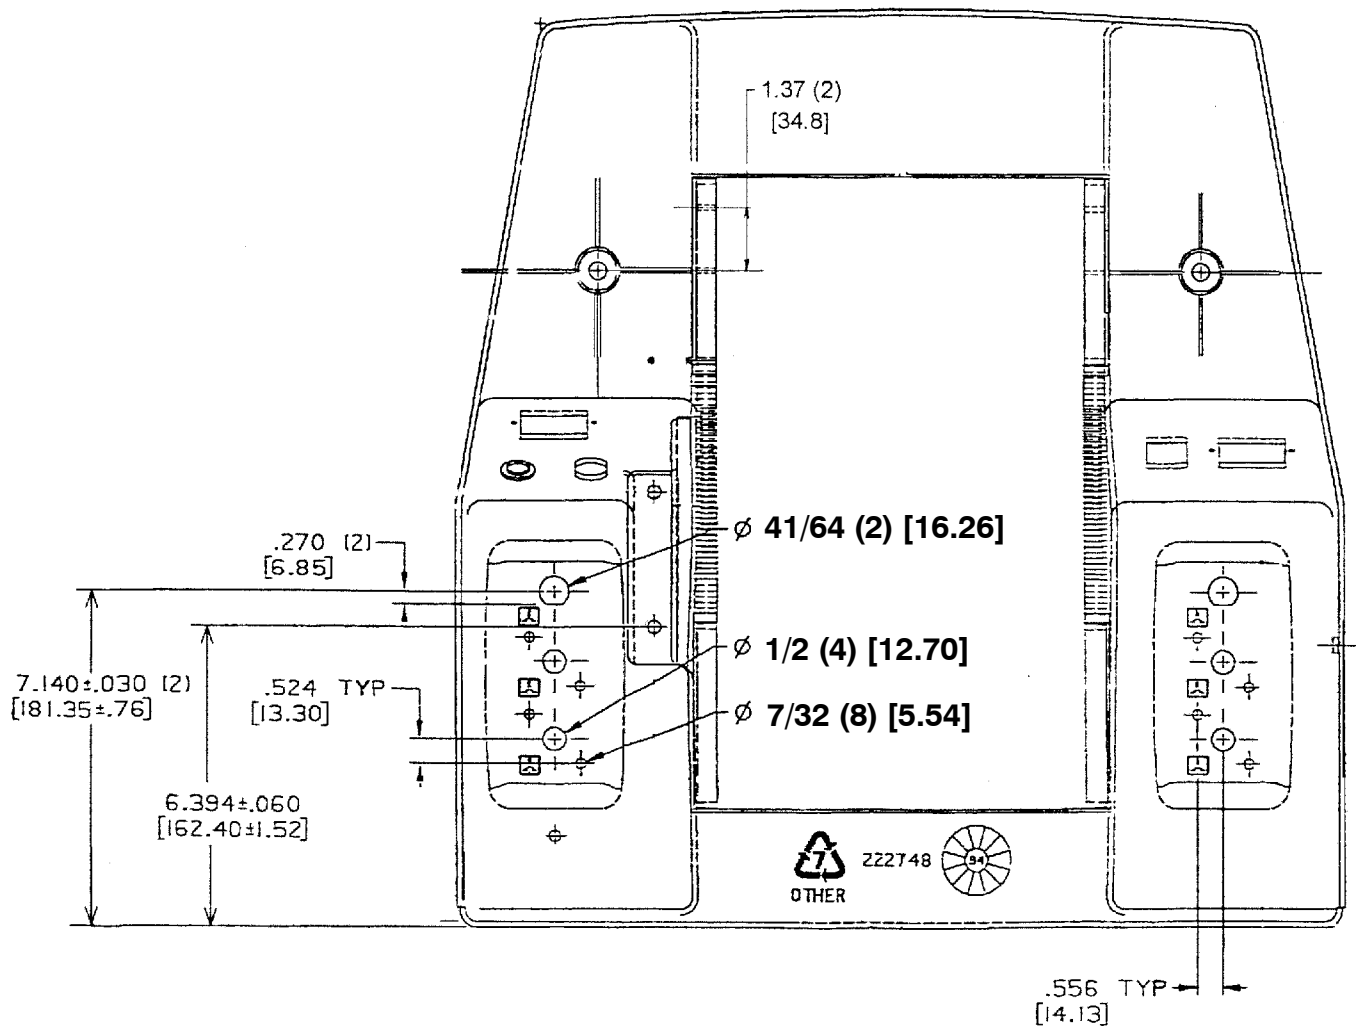

FIG. 2 - REWORKED SHROUD HOLE LOCATIONS
(Refer to Figure 2)
1. If installing the new shroud on a machine with older circuit breakers, new circuit breaker mounting holes will need to be drilled. (Refer to Figure 2)
2. Using the hole locations shown in figure 2, drill four 7/32 holes, two 1/2 in holes, and one 41/64 hole on each side of the shroud, for mounting the old circuit breakers. (Refer to Figure 2)